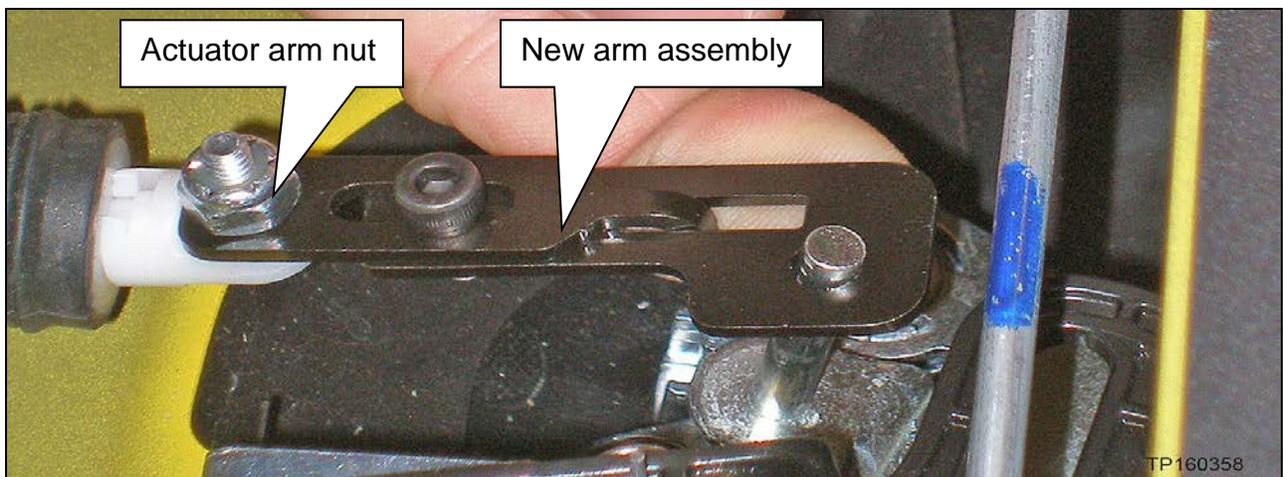

Figure 11
- e. Install the new arm assembly as shown in Figure 11, and turn actuator arm nut until finger-tight.